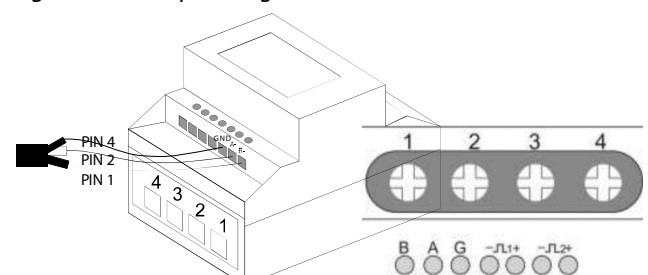

Fig. 37. Network cable on the Smart-Meter
4. Fit wire sleeve to the other end of the cable and connect to the contacts of the Smart-Meter. Screwdriver type: PH0, tightening torque: 0.7Nm (See Fig. 37)